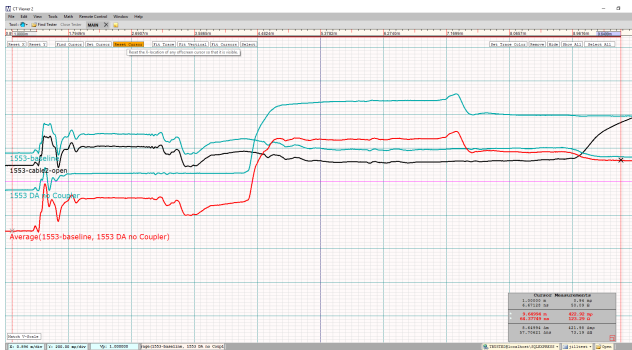

Figure 5.33 Taking the average of the two teal traces. The new average trace is shown in red.
3. A new trace will be created that is the average of the selected traces (Figure 5.33).